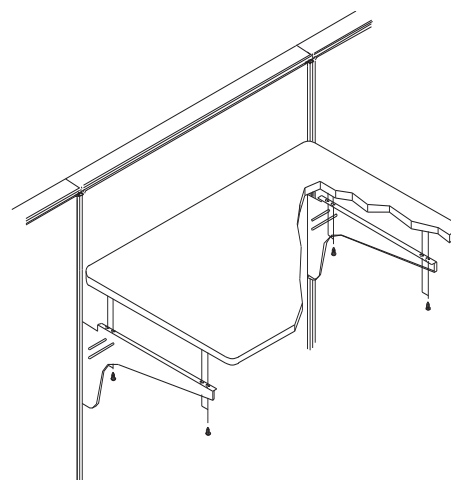

FIG. 2
8. Set the worksurface on the cantilever brackets and line up the worksurface pilot holes with the slots on the cantilever brackets. Secure the worksurface to the brackets using (2) #14 x ¾" screws in each bracket (Figure 2).